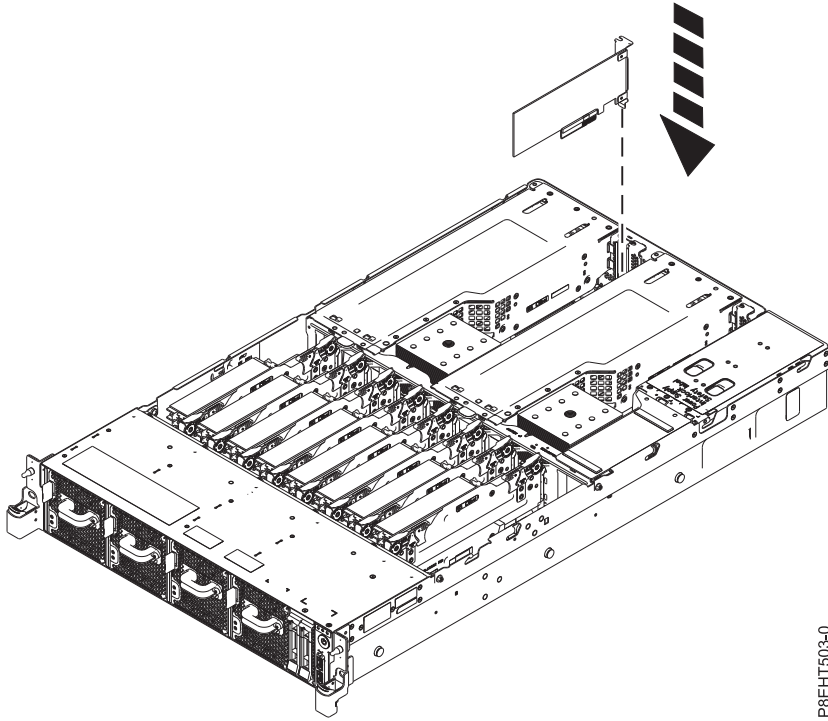

Figure 38. Inserting a PCIe adapter
5. Insert the adapter, aligning it properly and inserting it fully into the slot. See Figure 38 on page 34.